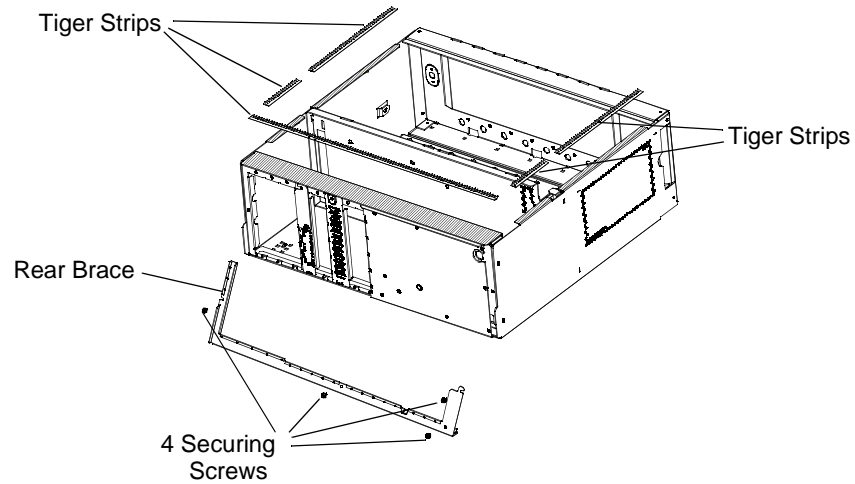

Figure 7-5 Removing Rear Brace (European Version Only)
On European versions of the Receiver Mainframe, tiger strips are secured to the top of the Mainframe chassis to assure good electrical contact with the top cover. See Figure 7-5.
- Step 1.** Remove the 4 screws that secure the Rear Brace to the Receiver Mainframe chassis. Save the screws. See **Figure 7-5**.